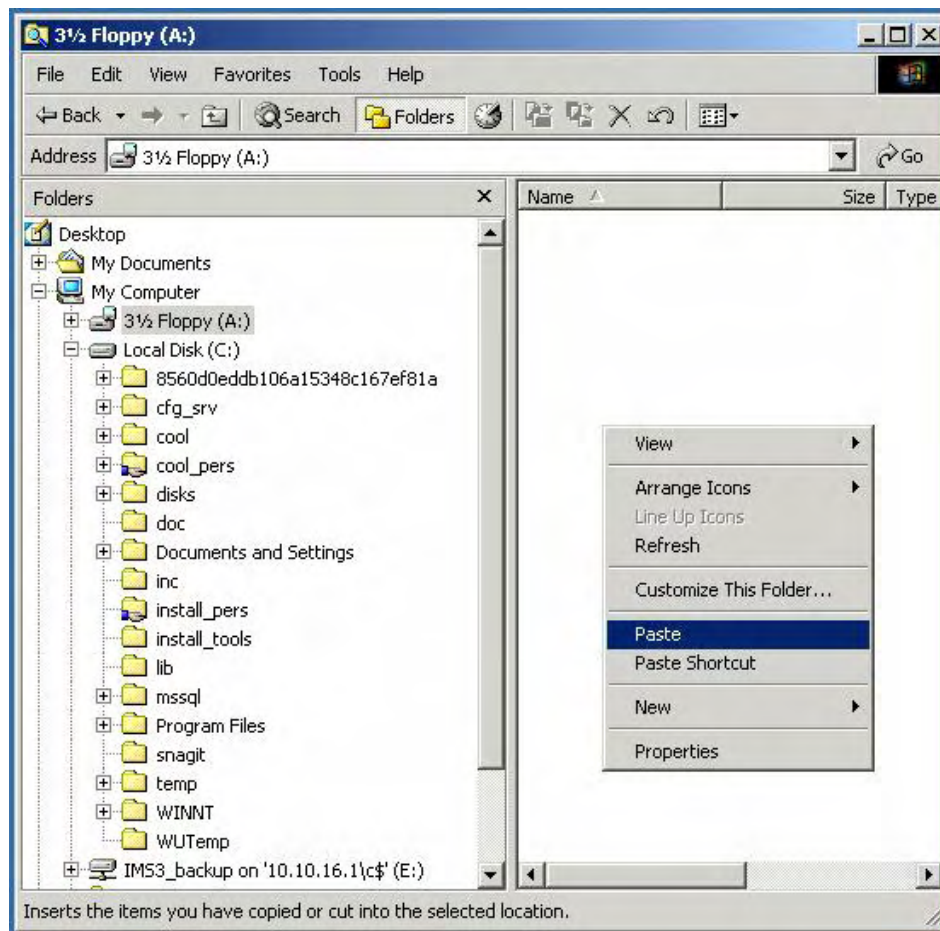

Figure 1-153. Paste siteconfig.ini to Floppy
6. Click on **Floppy (A:)** in the left pane (Figure 1-153).